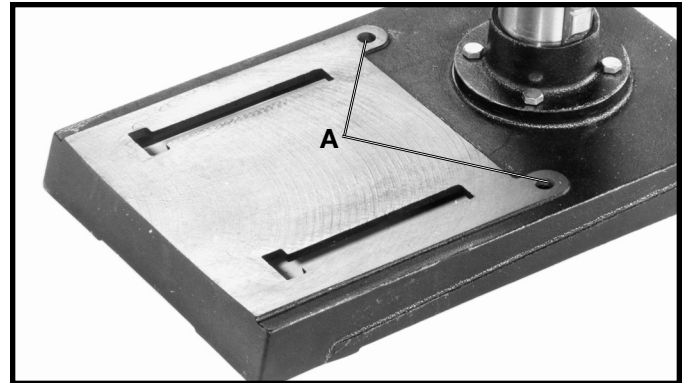
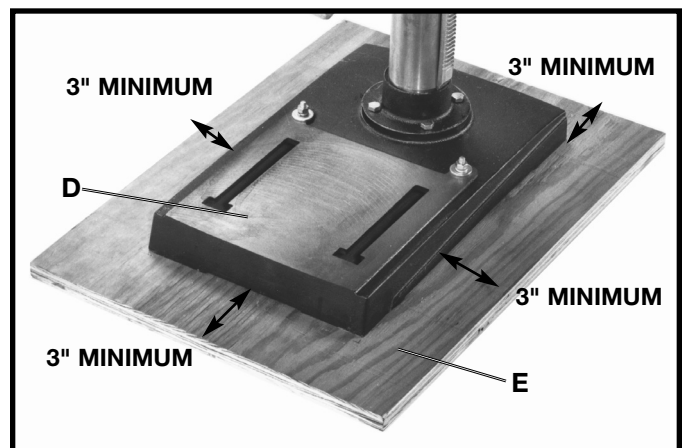

Fig. 3
Fig. 5
1. If your drill press is to be used in a permanent location, the drill press base must be secured to the supporting surface with fasteners through the two mounting holes, (A) Fig. 3, in the drill press base.
3. Place the drill press base (D) Fig. 5, centered on the supporting surface (E).
⚠ WARNING MAKE SURE THERE IS AT LEAST 3" ON ALL FOUR SIDES OF THE BASE AS SHOWN IN FIG. 5.
4. Drill two 3/8" diameter holes through the holes (A) Fig. 3 in the drill press base, and in the supporting surface (E) Fig. 5.